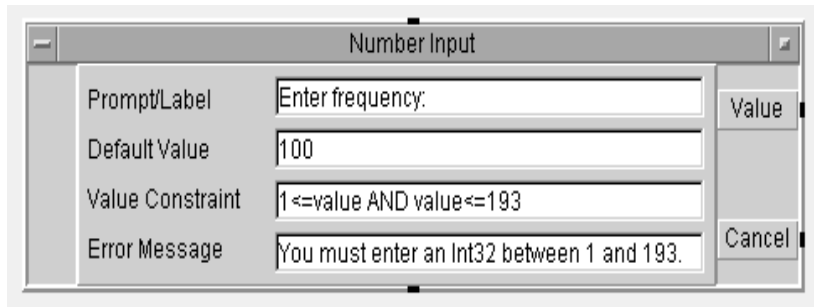
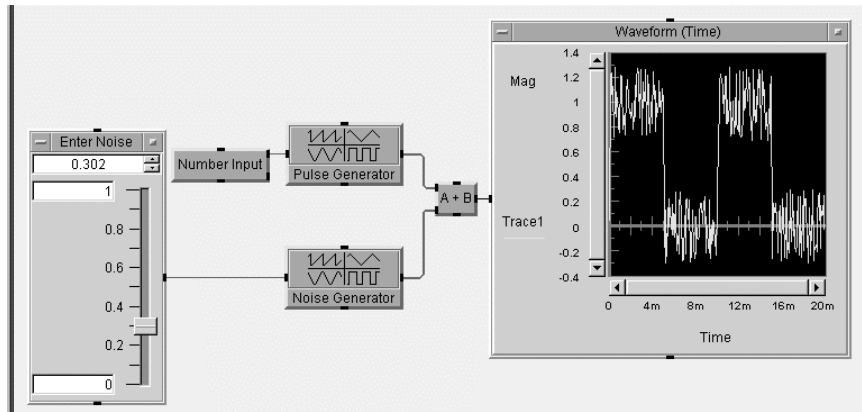

Figure 2.2. The Int32 Input Configuration box
Figure 2.5. PulseProgram after running
This lab will show you how to devise a pulse program. Other techniques will be introduced, including: how to describe your program within the Main menu description box, document your program, and create a dialog box (Figure 2.2 and Appendix D). You will also learn to add and restrict the parameters of a virtual device, vary the parameters of a program, discover the effect of entering an incorrect parameter value, and change program parameters via the Real Slider or Real Knob. See Figure 2.5. Furthermore, you will learn to add two device waveforms together and choose input parameters that force the resulting waveform to stay within the Y axis scale; store the program results in a file using the ToFile object and examine the contents of ToFile; create an operator interface (Figure 2.5), switch between the Panel View and Detail View (Figure 2.5), and change colors on a Panel, and colors and fonts on an Object.
8. Change Value Constraint and Error Message to 1 on the low end and 193 on the high end as in Figure 2.2. Click the upper-right button of Number Input to convert it to an Iconic View and drag it to the upper left corner.
31. Run your program. Follow instructions given in the pop-up boxes. A pulse will appear with noise added to it. See Figure 2.5.